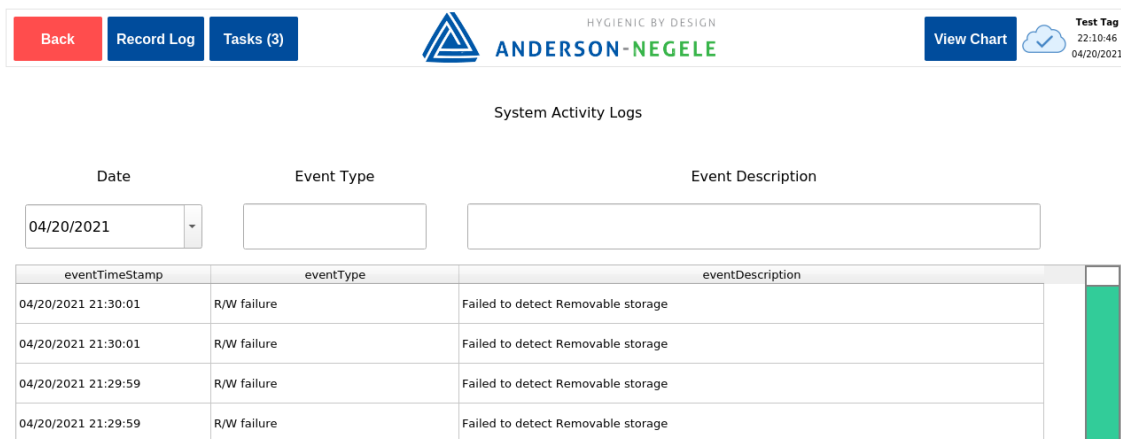

Figure 52: Sample View of System Activity Log
2. Select *System Activity Logs* to view a log similar to Figure 52 below